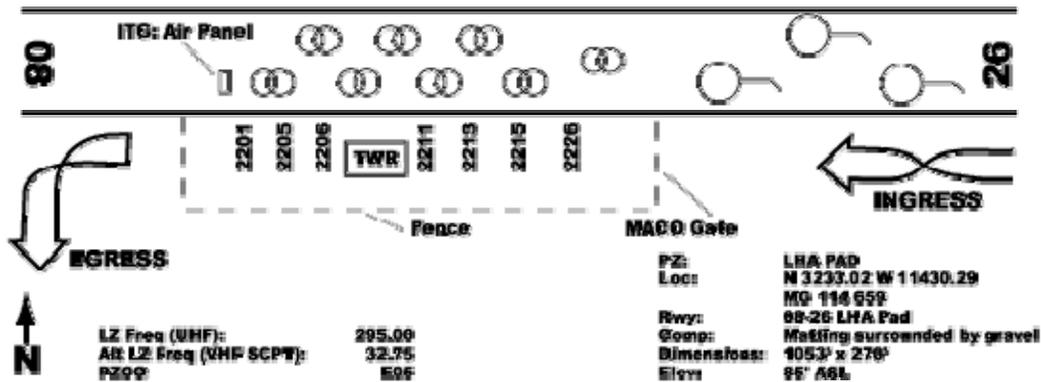

Figure 9-1. Pickup Zone Diagram.
1. **The Pickup Zone Plan is the Pickup Zone Diagram.** See Figure 9-1. Pickup Zone Diagram shows zone, aircraft formation, staging arrangements of sticks, ITG, LZ Control Frequencies, and callsigns. If possible, bump plan is also shown.